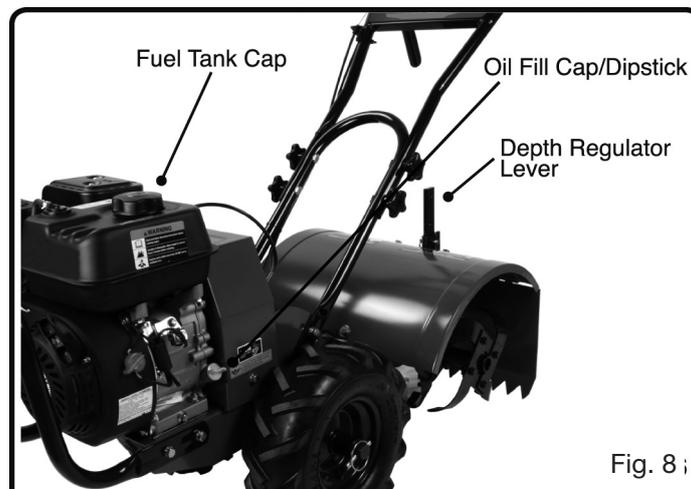

Fig. 8 ;
2. Place the tiller on a level surface and make sure the depth regulator lever is set so the main frame of the tiller is level. (See Fig.8)
3. Remove the oil fill cap/dipstick and wipe clean with cloth. (See Fig.8)